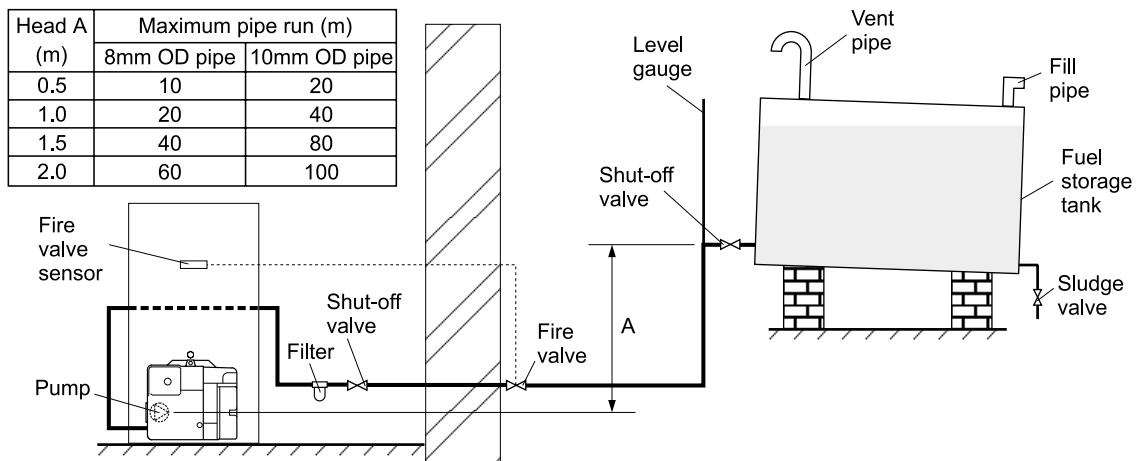

Fig. 3 - Single pipe system
3.4.3 Single pipe system - (See Fig. 3)